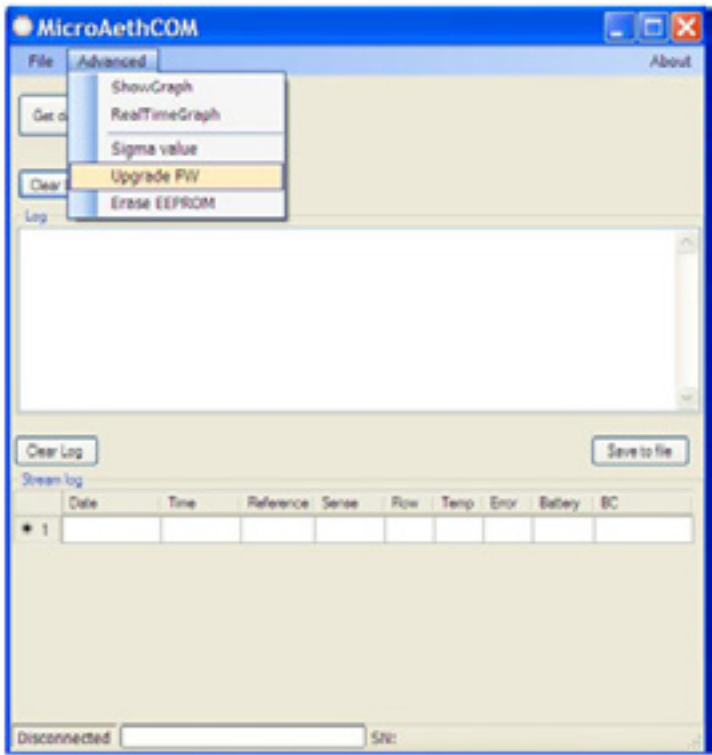

Figure 19: Upgrade Firmware Screen
- c. From the microAethCOM main menu, click on Advanced then Upgrade FW. A dialog box will open which will allow you to find and open the file named ‘PSxxx.hex’ where xxx refers to the version number (Figure 19).